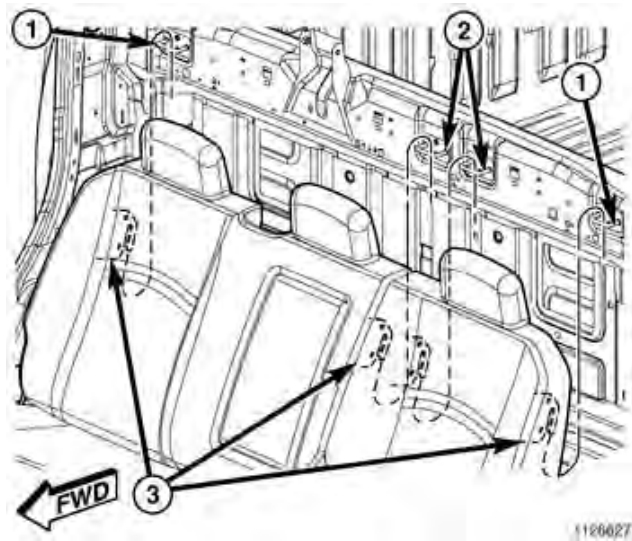

Figure 49 – Center Shoulder Belt
14. Lift the rear seat assemblies up and separate the seat hooks (3) from the brackets (1 and 2) (Figure 49).
63. Position the rear seat assembly into the vehicle. lift the seat hooks (3) onto the brackets (1 and 2) (Figure 49).